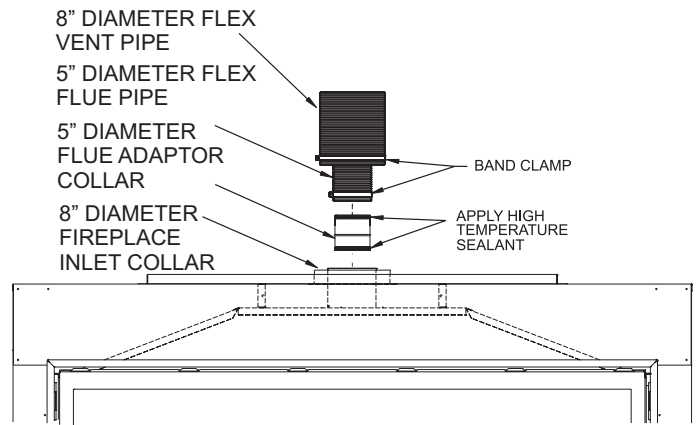

Figure 59a
- Apply sealant to the outside of the flue pipe adapter and connect to the flex flue pipe. Then insert the adapter into the fireplace flue. Secure the flue adapter to the fireplace flue with a minimum of two screws provided. **See Figure 59a.**